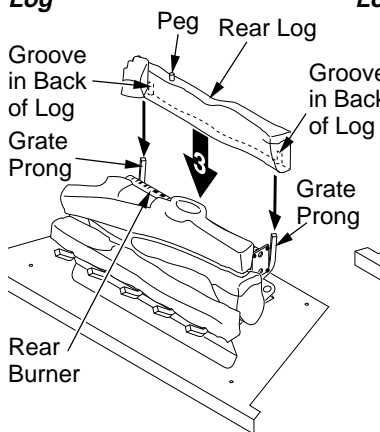

Figure 26 - Installing Rear Log
3. Slide the grooves in the back of the rear log against the rear grate prongs. Make sure the peg on the log is on top (see Figure 26).